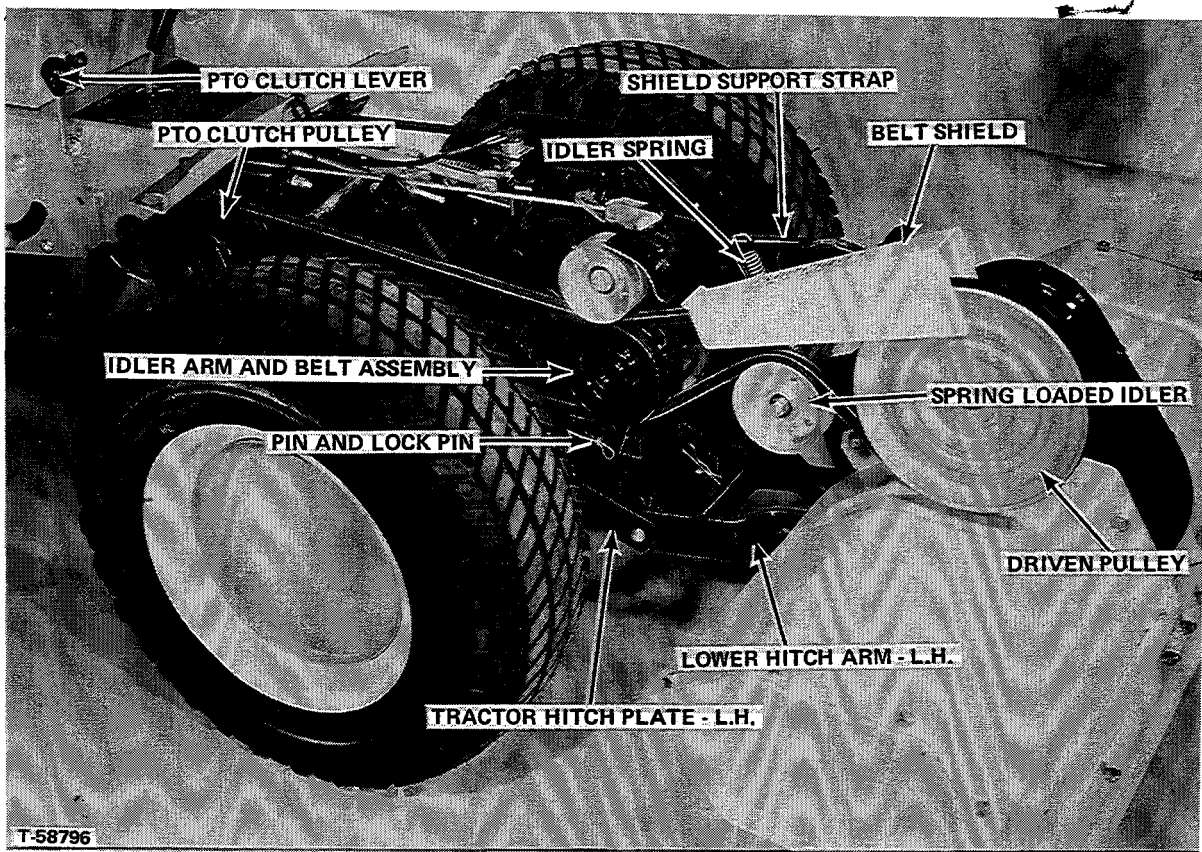

FIGURE 5
3. Place the front end of drive belt over the left hand belt groove in the PTO clutch pulley (Figure 5).
6. Bring rear of drive belt back over the spring loaded idler under the belt shield and over the driven pulley as shown in Figure 5. Make sure that idler spring is hooked to shield support strap, (Figures 5 and 6).
2. Remove drive belt from tiller driven pulley and the PTO clutch pulley (Figure 5).
3. Remove pins and lock pins holding lower hitch arms to the tractor hitch plates (Figures 5 and 6).